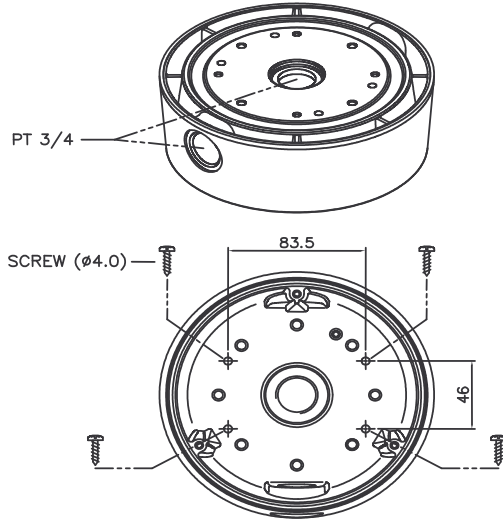

FIG.3
1. Fix the surface mount adaptor with 4pcs of screws on the place where you want to install. (FIG.3)